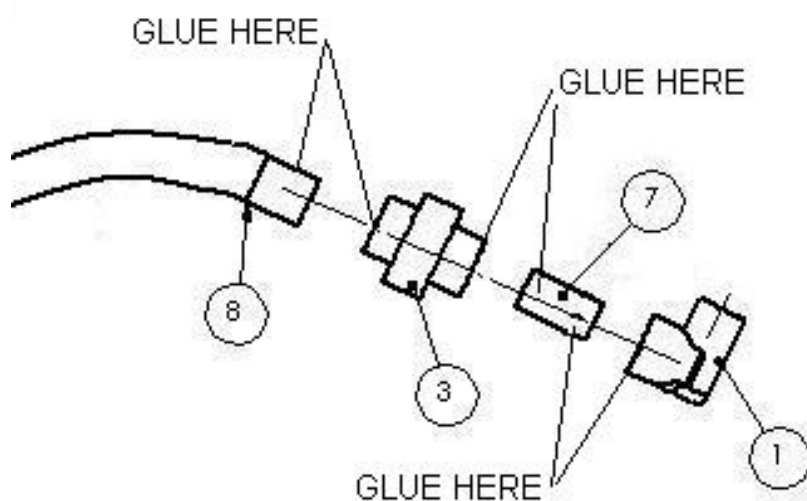

Figure 9
- 12) Use PVC glue to assemble the plumbing components as shown below in Figure 9. Use caution not to apply glue to the threaded joint of the (#3) union; the union is designed to be disassembled for winterizing.